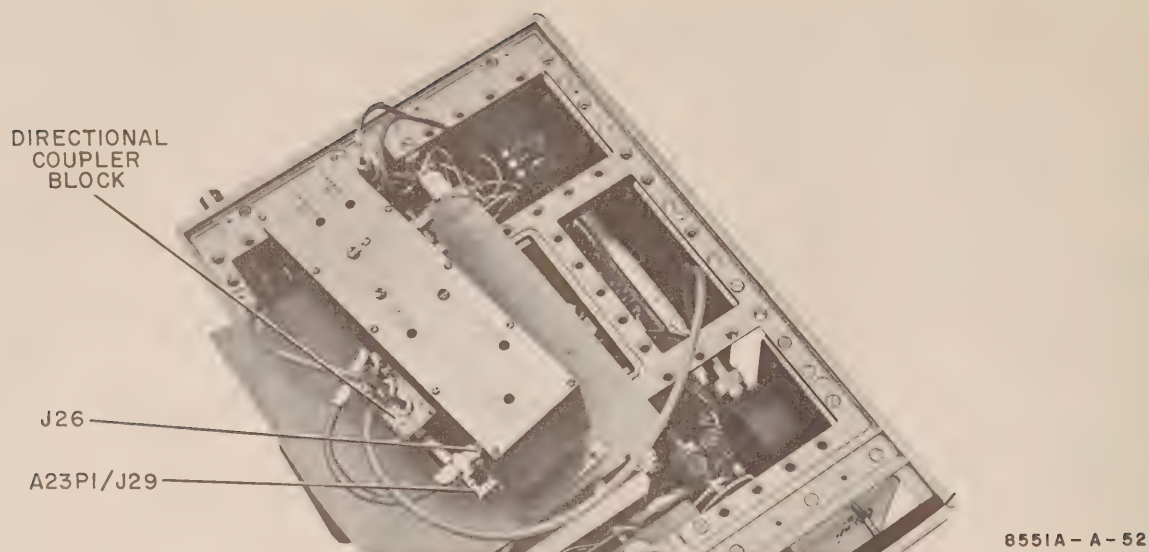

Figure 5-14. Lock Assembly A15 Ready for Adjustment
- h. Position instrument on its left side and phase lock assembly on a piece of cardboard (or other insulating material) on the side frame of instrument (see Figure 5-14). Reconnect Cables W28 and W31 to Connectors J27 and J30.
aq. If necessary, reposition the coupling loop of A23DC1 Directional Coupler (see Figure 5-14) for proper signal amplitude (increase coupling to increase signal). Coupler block is pulled in (to increase coupling) by four corner screws and pushed out by four corner setscrews. Since the two sets of screws work against each other, loosen one set before tightening the other. After adjustment, use a gauge (such as a drill bit) to be sure spacing between the block and assembly body is the same all around.